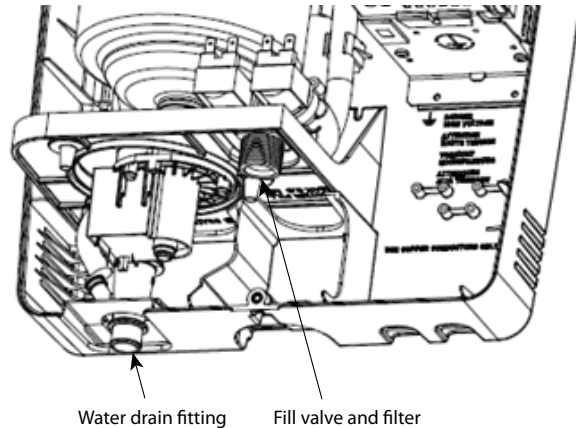

Fig. 3.d
**➡ NOTE:** A strainer is built into the fill valve fitting underneath the unit that requires periodic cleaning. Be sure to allow clearance for access (See Figure 3.d.).